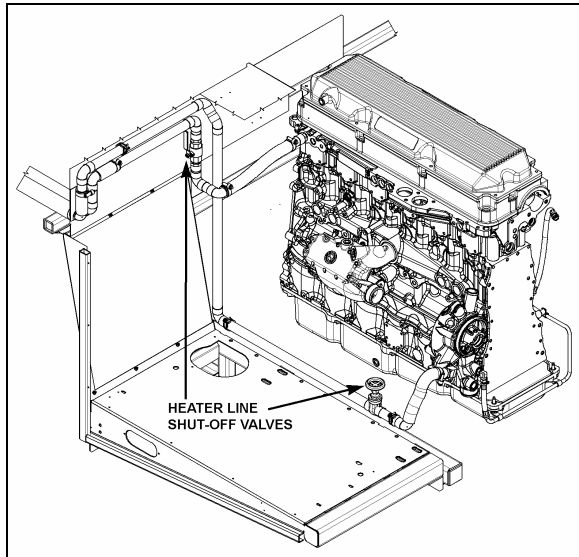

FIGURE 42: HEATER LINE SHUT-OFF VALVES 22326
**On X3 Coaches**, the valves are located in engine compartment. One is on the L.H. side of compartment in front of the radiator and the other valve is located under the radiator fan gear box (Fig. 42).